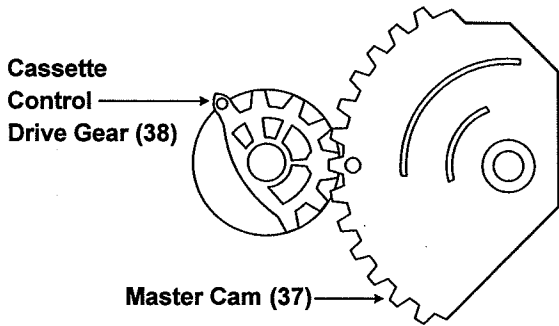

Figure 6
Align the Cassette Control Drive Gear (38) with the wide tooth of Master Cam (37) as shown in figure 6.